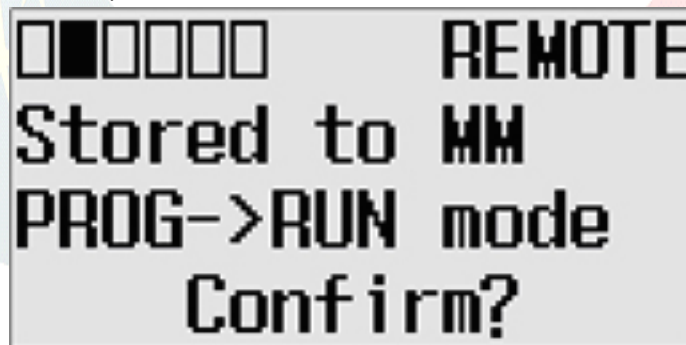

Figure 12 MM Change Mode Screen
11. The following screen appears if the save is complete. Press the “OK” key to go back to executing mode (refer to Figure 12 MM Change Mode Screen).